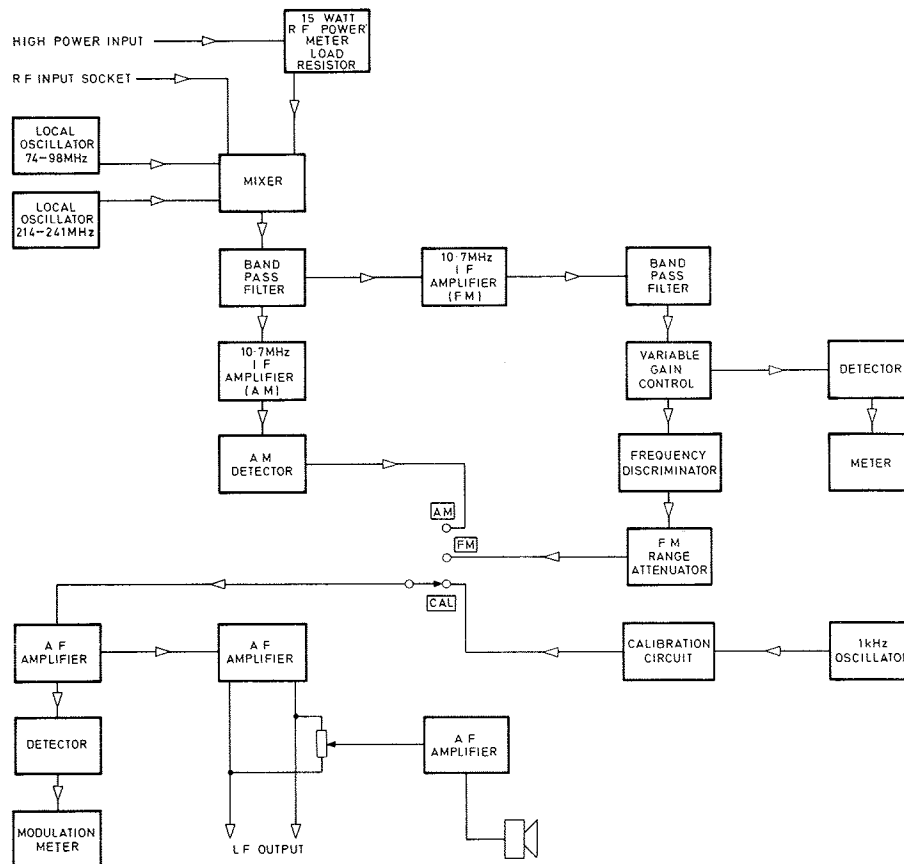

Fig. 3.4 Block Diagram of the Modulation Monitor
3.5 MODULATION MONITOR (Fig. 3.4 and Fig. 7.3)